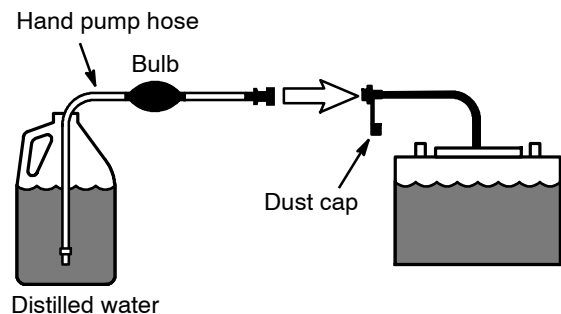

Fig. 7
3. To add water to batteries, remove the dust cap from the battery water tube manifold and connect the hand pump hose (Figure 7). Submerge the other end of the hand pump hose into a bottle of distilled water. Squeeze the bulb until firm. The level indicators will turn black when electrolyte is at the correct level.